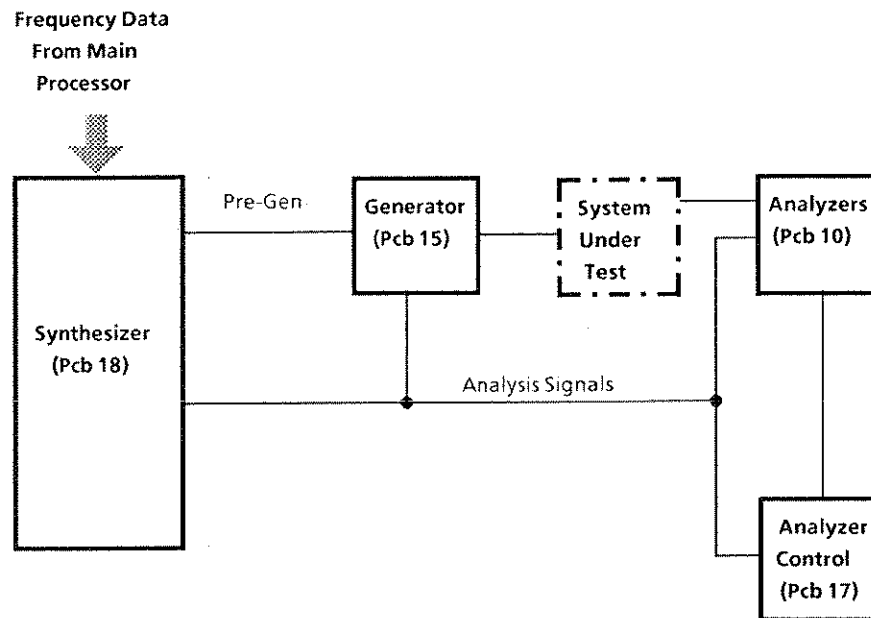

Fig 5.9.1 Synthesizer - System Interfacing
The low frequency (LF) synthesizer provides a digital drive signal for the LF generator (pcb 15) and drive signals for the analyzer and analyzer control boards (pcbs 10 and 17 respectively). These signals are derived from a 10MHz (10.468983MHz) crystal oscillator by a series of frequency dividers. The basic interconnections between the LF synthesizer and pcbs 10, 15, and 17 are shown in Fig. 5.9.1 below.